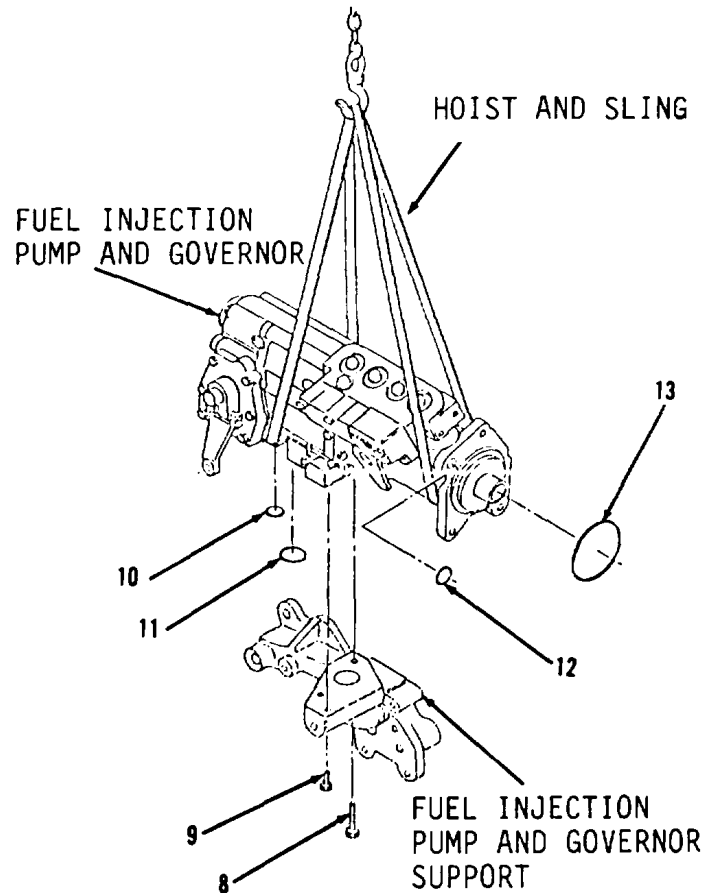

Figure 3-85.
2. Lubricate and install new preformed packings (13 thru 10) under fuel injection pump and governor (Figure 3-85).